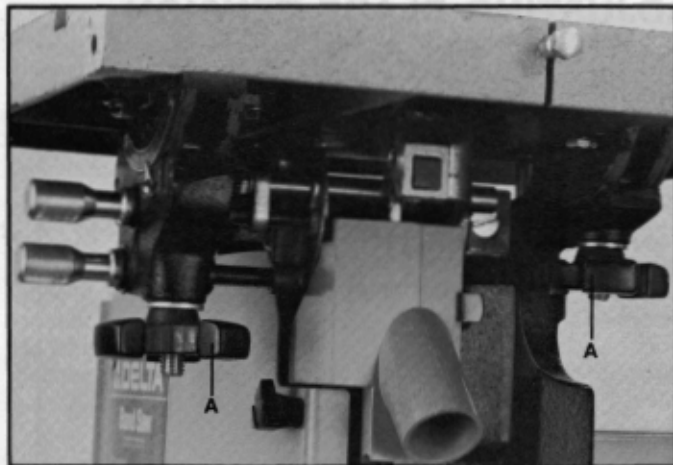

Fig. 28
The table on your band saw can be tilted 45 degrees to the right and 10 degrees to the left. To tilt the table, loosen the two star wheels (A) Fig. 28, tilt the table to the desired angle and tighten the two star wheels (A).